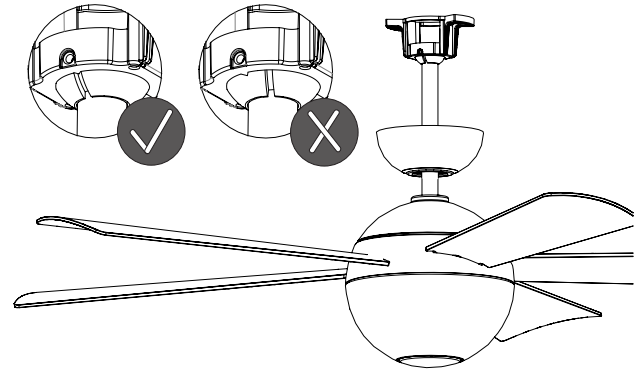

FIGURE 17
1. Carefully lift the fan motor assembly up to the mounting bracket and seat the hanger ball in the mounting bracket socket. Make sure the tab on the mounting bracket socket is properly seated in the groove in the hanger ball. Rotate the socket assembly until the ball drops and locks into the hanger bracket screw (Fig. 17).